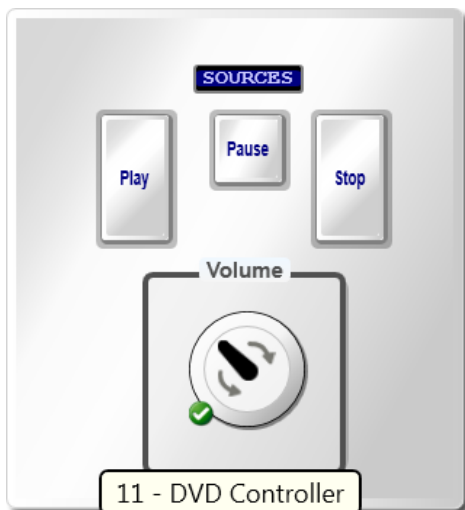

Figure 159: Final Appearance of the "Room 1" Virtual Device Front Panel in K-CONFIG
4. Right-click a text label or button to set its name (see Figure 159):
5. Right-click a button to set its behavior (see Figure 159):
Figure 159 illustrates the final appearance of the virtual device: